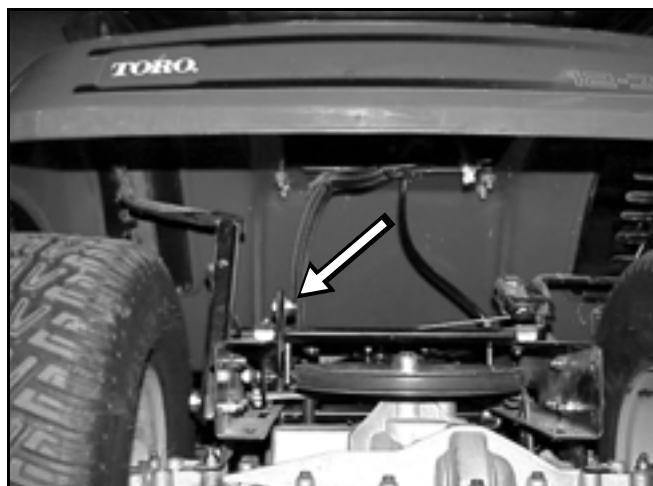

Figure 39
- If the shifter does not align with the gates, loosen the bolt and nut between the shift pivot and the shift pivot lever and adjust (Figure 39).